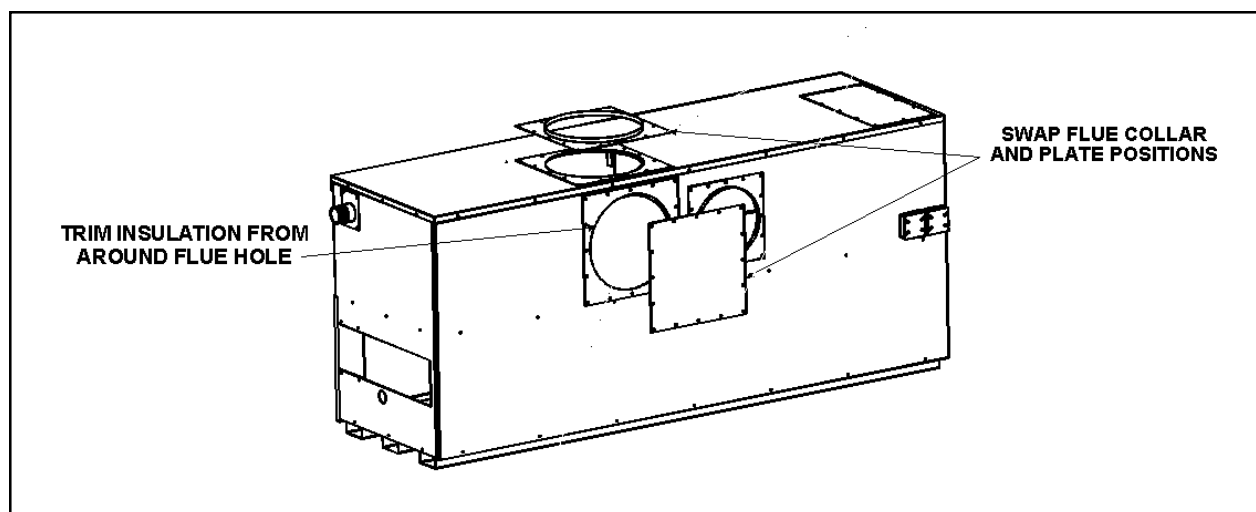

Figure 9. Switching from Vertical to Horizontal Venting
2. Trim the insulation from around the rear flue hole in the jacket and the fluebox. Support insulation from inside the fluebox to facilitate cutting. Use safety precautions such as gloves. Place the gasket and vent adaptor in the horizontal position. Place the gasket and flue plate in the vertical position as shown in figure 9.